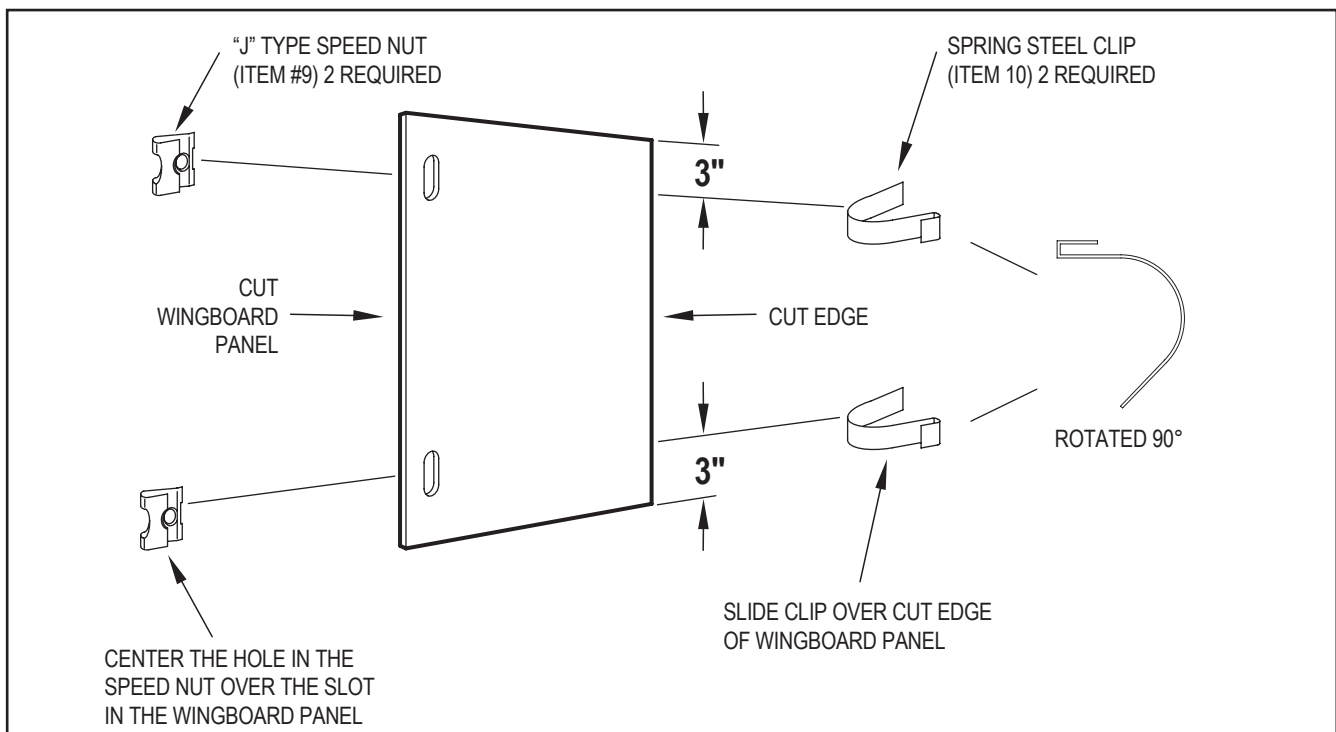
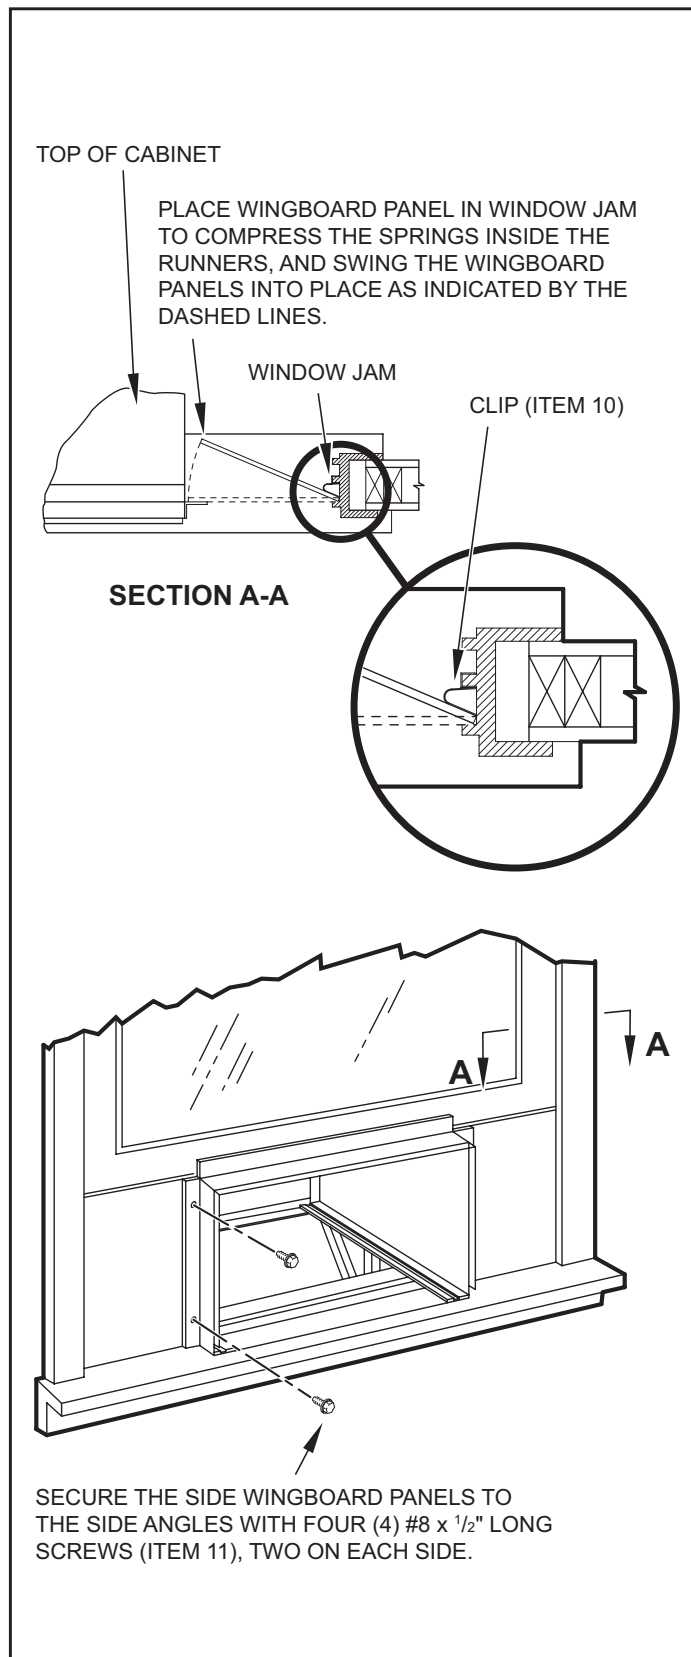

Figure C.4.12
Figure C.4.13
STEP 9. To assemble the wingboard panels, push on the "J" type speed nuts (Item 9) and spring steel clips (Item 10) (see Figure C.4.12). Secure each panel with two (2) screws (Item 11). (see Figure C.4.13)